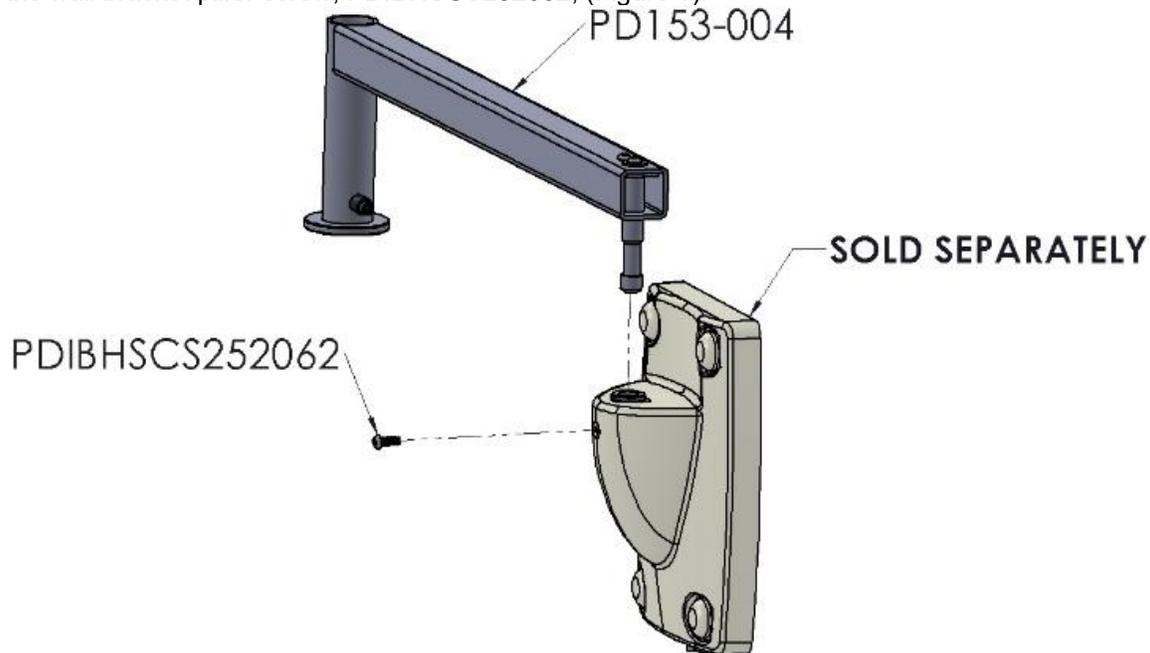

FIGURE 1
2. Place the horizontal boom's, PD153-004, base pin into the wall bracket. The base pin should seat snug in the wall bracket (Figure 1).
3. Tighten the wall bracket pilfer screw, PDIBHSCS252062, (Figure 1).